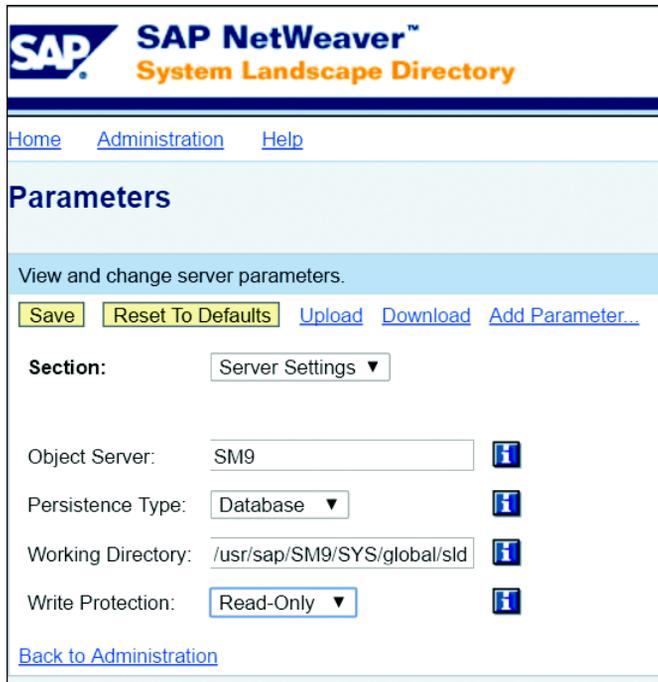

Figure 10 SLD Write Protection Parameter Set to Read-Only
- » In the SLD, under the ADMINISTRATION section under PROFILE, set the parameter WRITE PROTECTION to "read-only" (see Figure 10). See SAP Note 2068999 - Migrating an SLD for additional information.